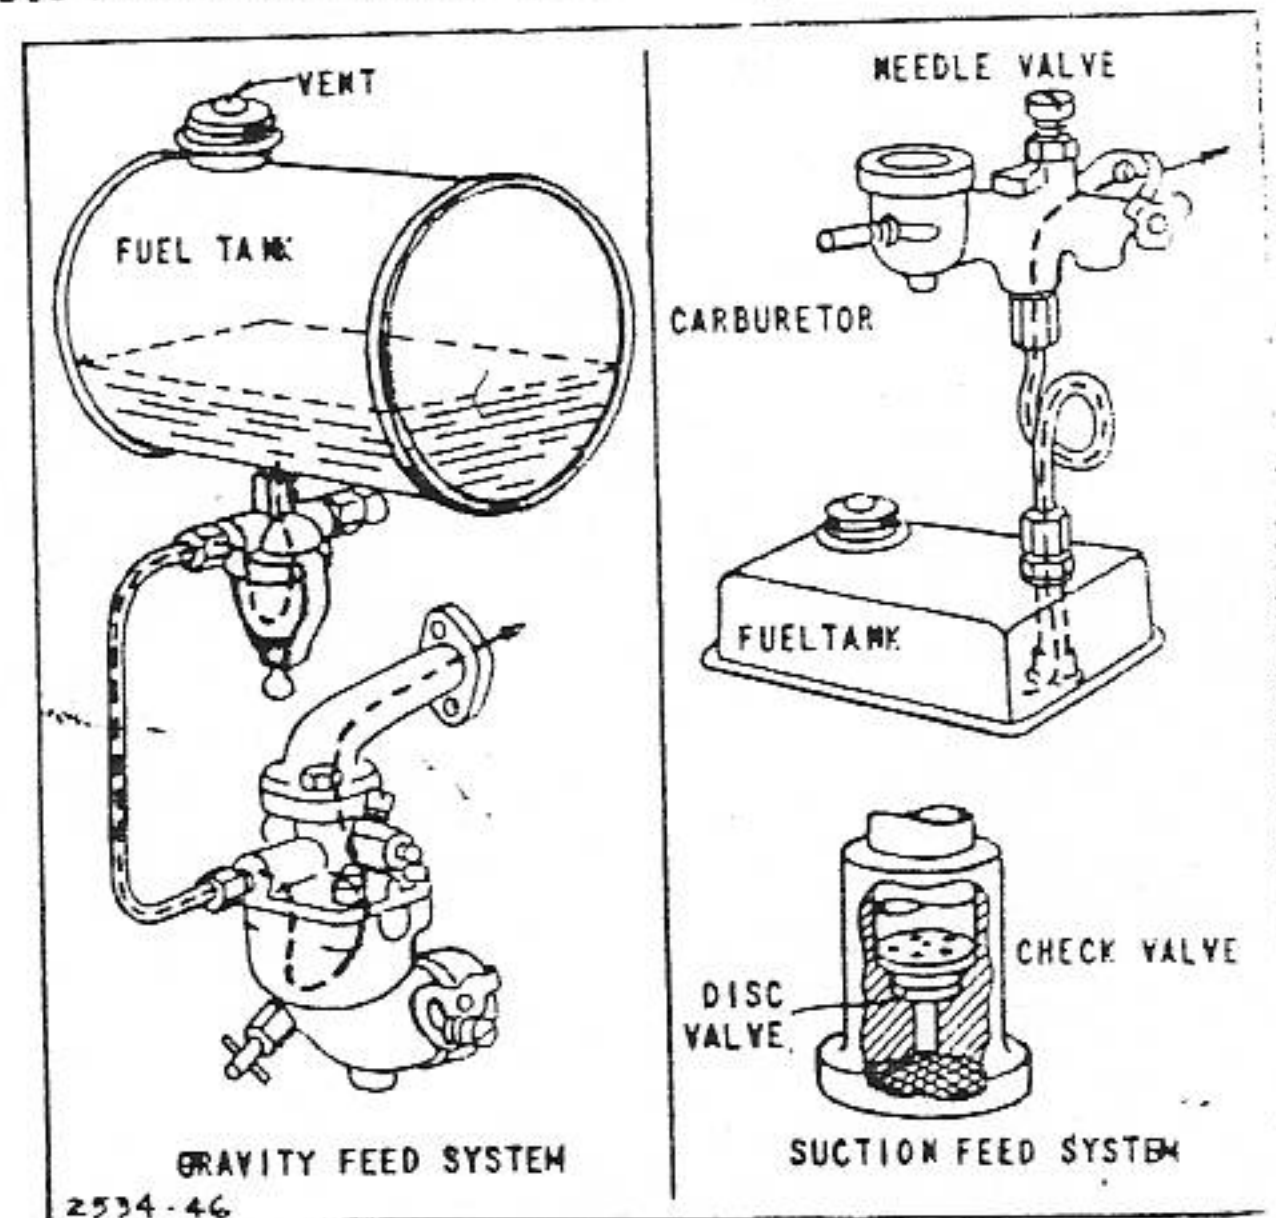

FIG. 44—CARBURETORS
Two fuel supply systems are used on Briggs & Stratton engines: (1) Gravity Feed and (2) Suction Feed. Fig. 44. The gravity feed system has the fuel tank above the car-